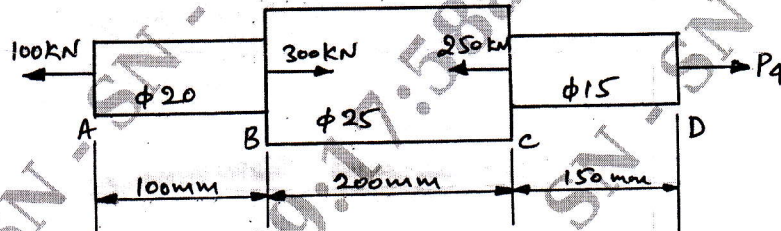

Fig.Q.2(a)
- 2 a. Determine the load P_4 and stresses in various segments of the circular bar shown in Fig.Q.2(a). Compute the total elongation taking $E = 195\text{GPa}$. (10 Marks)